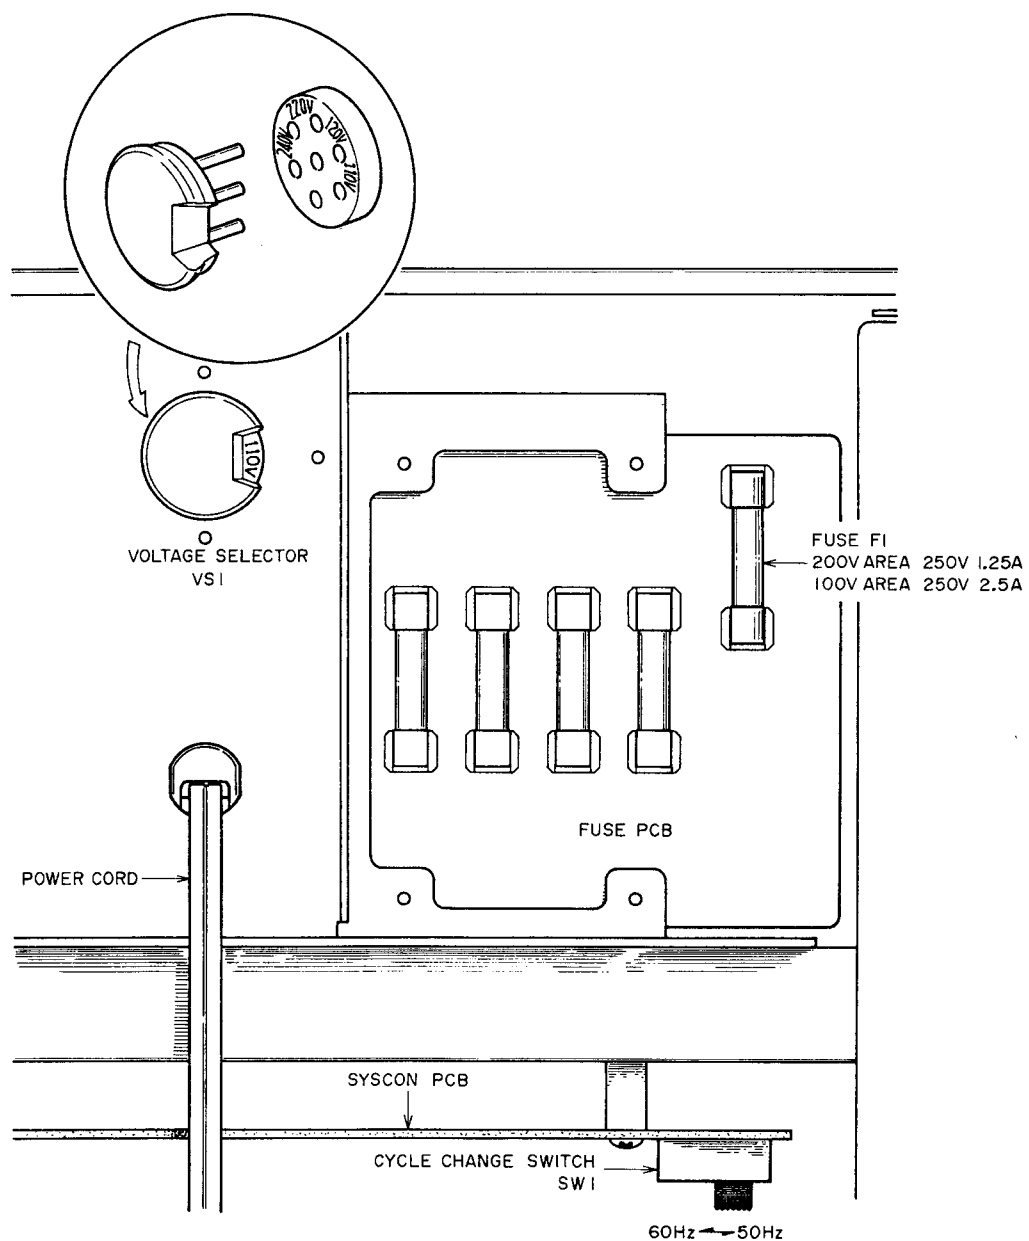

Fig. 2 Voltage Conversion (U/T Model) and Cycle Conversion (U/T, JPN Model)
2. CYCLE CONVERSION (Refer to Fig. 2)